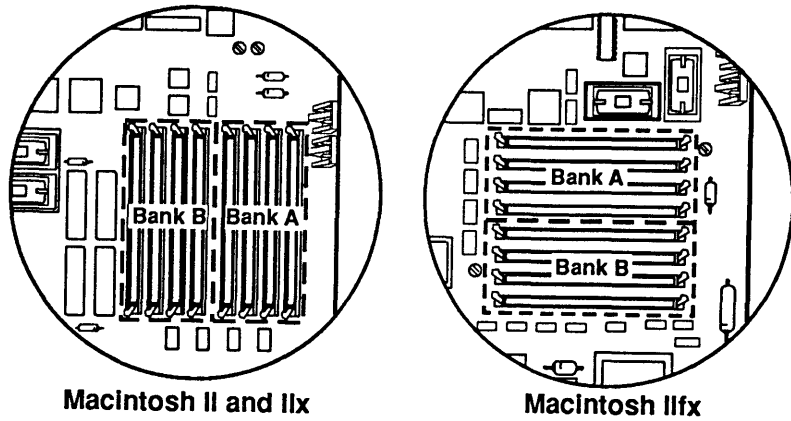

Figure 4-2
3. **Figure 4-2.** Install the four known-good SIMMs in Bank A.